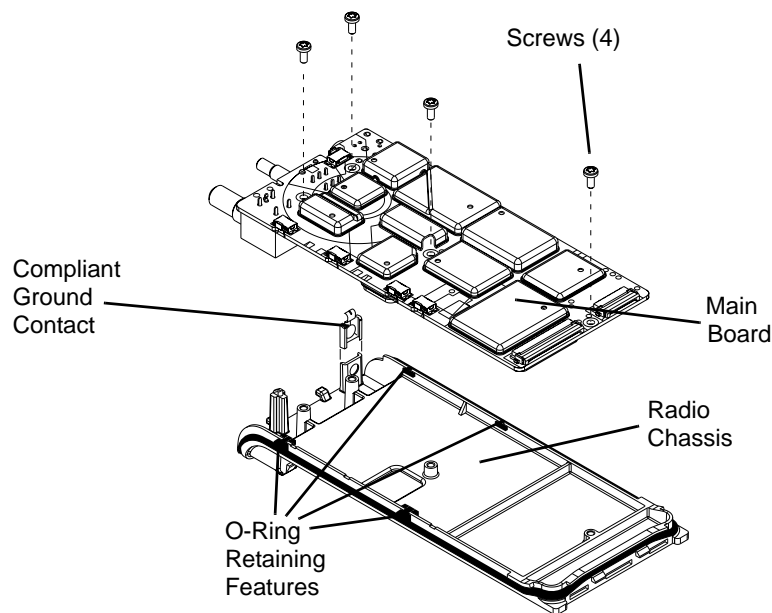

Figure 3-5: Remove Main Board from Chassis
2. Lift the main board from the chassis (refer to Figure 3-5).